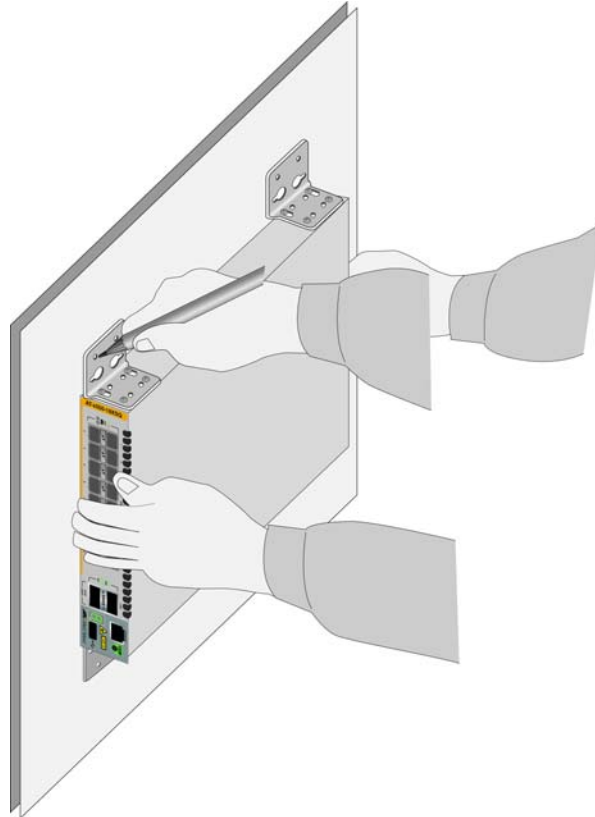

Figure 37. Marking the Locations of the Bracket Holes on a Concrete Wall
3. Have another people hold the switch on the concrete wall at the selected location for the device while you use a pencil or pen to mark the wall with the locations of the four screw holes in the four brackets (one screw per bracket). Refer to Figure 37 on page 74.